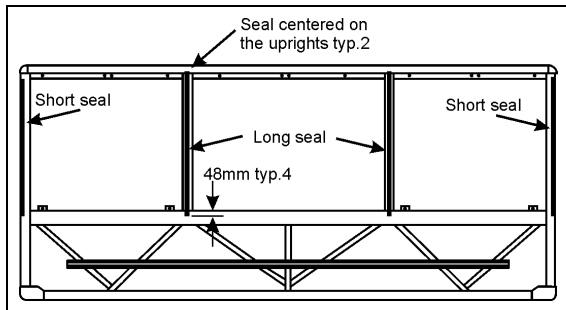

FIGURE 55 : FACE WINDOW - RUBBER SEAL INSTALLATION
2. If necessary, install rubber seals as per FIGURE 55. Press the seal against the structure with a roller;
1. If necessary, install the rubber seals as per FIGURE 55. Press the seal against the structure with a roller;